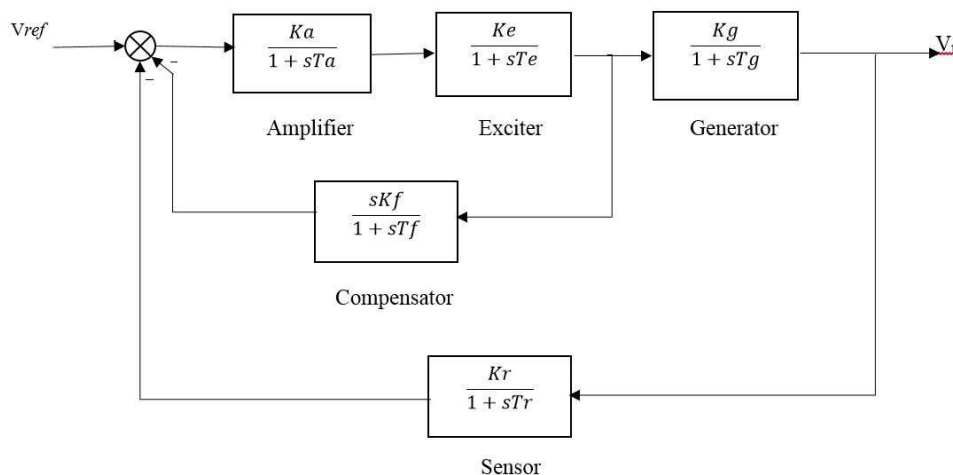

Figure 1: Block diagram of an excitation system with compensator
Figure 1 shows a block diagram of a typical excitation system. The data pertaining to this system are given below.
2. Design the Compensated System (ie with the compensator): The excitation system is made stable for large values of K_a (say equal to 100) and achieve desired time domain performance requirements by adding a derivative feedback as shown in Fig. 1. Set $K_f = 15$. Determine the time domain performance of the system. Plot the step response of the closed loop system of the compensated system. Comment on the stability of the system with the compensator?